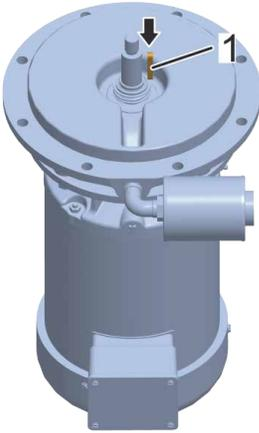

Fig. 105 Inserting the key (example: herborner.F-N)
10. Fit the key (Fig. 105/1) into the slot on the motor shaft and press it fully down.